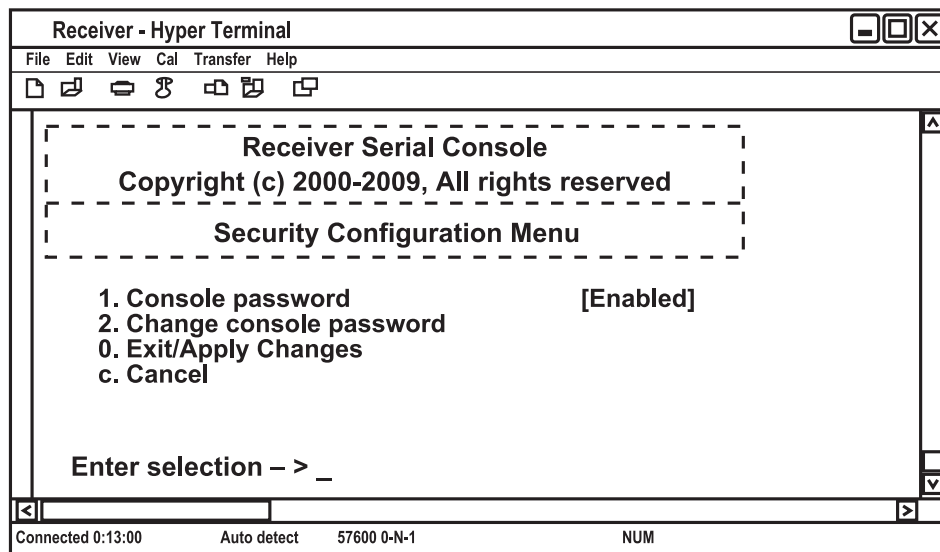

Figure 4-22. The Receiver Security Configuration Menu.
3. Press "2" to select the Security Configuration option and press "Enter." (The screen in Figure 4-22 appears.)